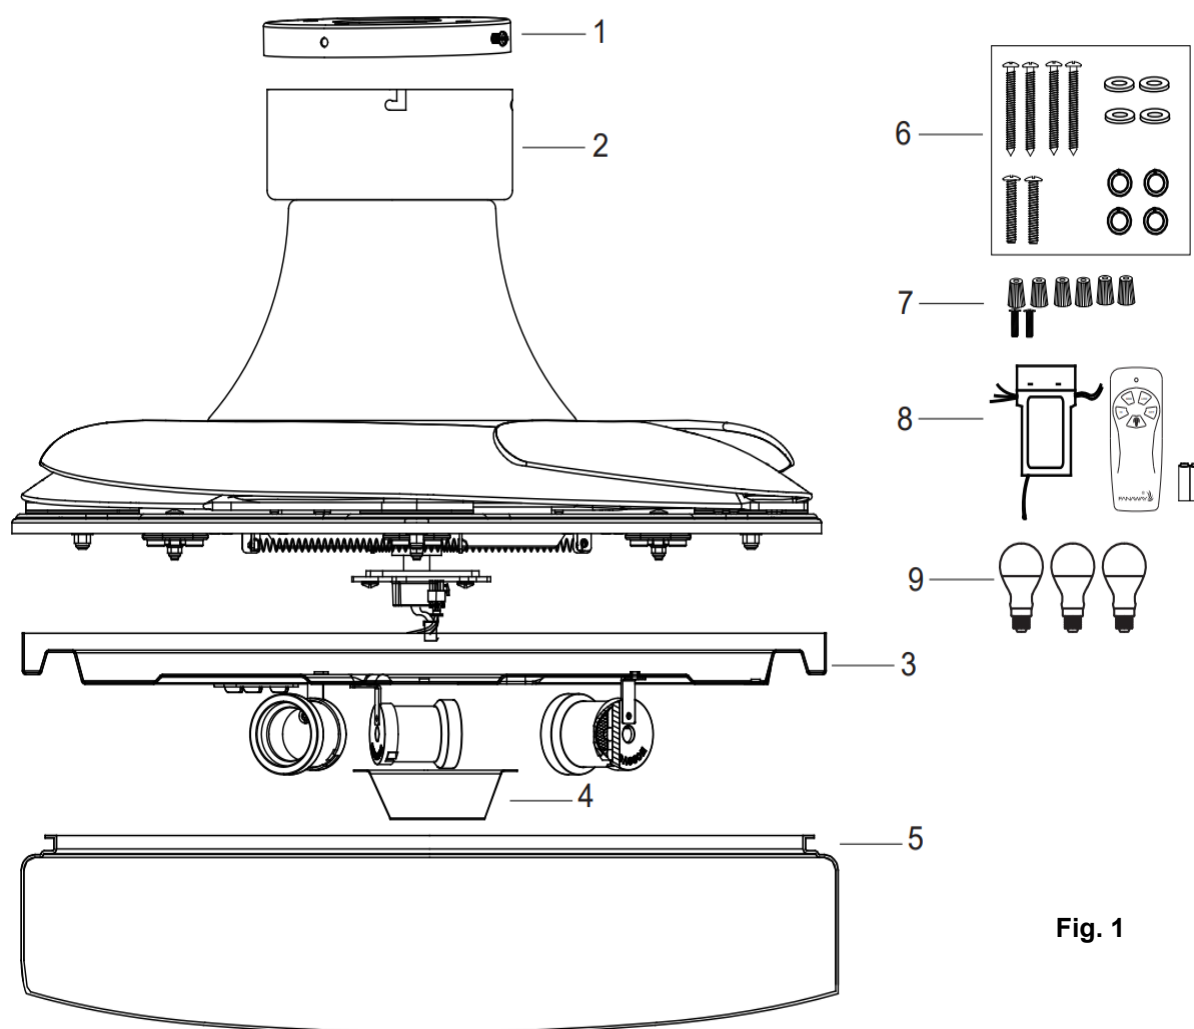

Fig. 1
- Examine and identify the parts. Please refer to **Fig 1**.